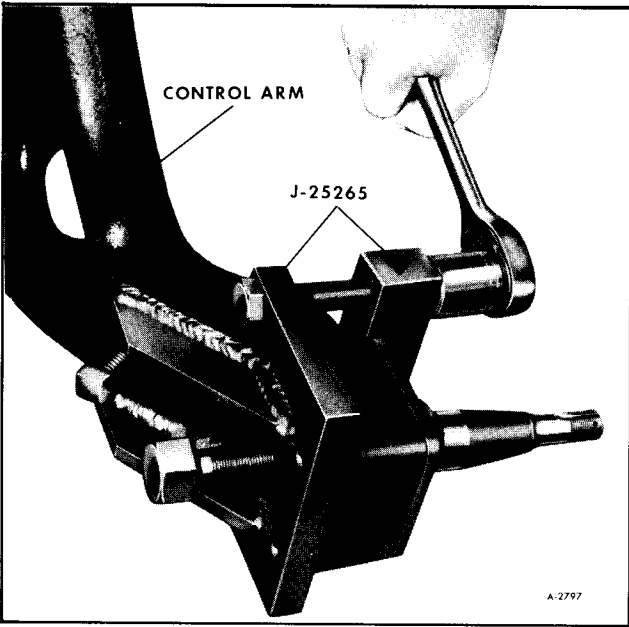

Figure 25—Special Tool J-25265
15. Install spindle removing tool as shown in Figure 25.
16. Tighten tool through bolts and then reaction set screw as shown in Figures 25 and 26.